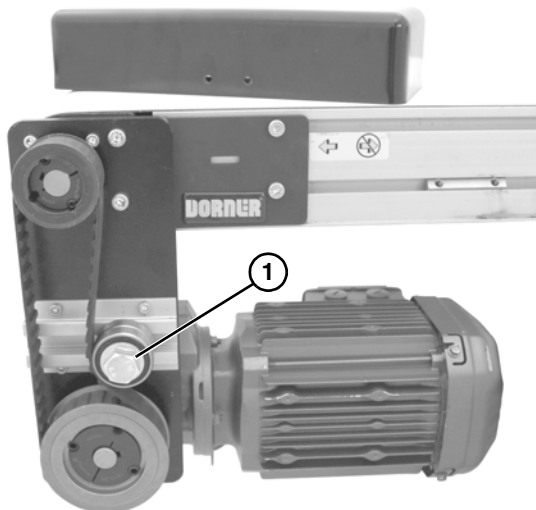

Figure 25
- Loosen tensioner (**Figure 25, item 1**).